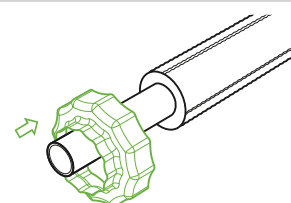

Fig. B10.2.2
3. Slide the Heat Shrink End Cap (or Heat Shrink Sleeve if the welding adaptor to a steel pre-insulated fitting) over the pipe (Fig. B10.2.2).